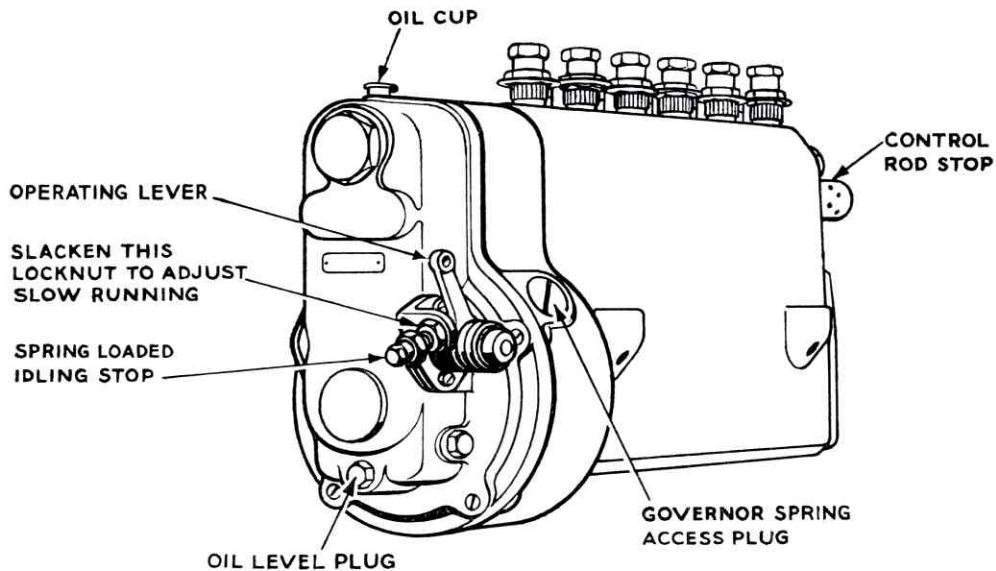

FIG. 88 INJECTION PUMP AND GOVERNOR
- (c) Connect the operating lever, Fig. 88, to the engine speed control linkage.
- (a) Remove the access plug, Fig. 88, from the governor housing.
Fig. 88 shows the spring-loaded idling stop. The governor operating lever is against this stop when idling speed can be set by screwing this stop in or out the required amount.
Before placing the governor in service, raise the oil cup lid, see Fig. 88, and fill up with .25 pint (142 cc.) of engine oil. A further .125 pint (71 cc.) should be added after every 100 hours run. The level plug shown in Fig. 88 should be removed at each topping up, so that overfilling does not occur.